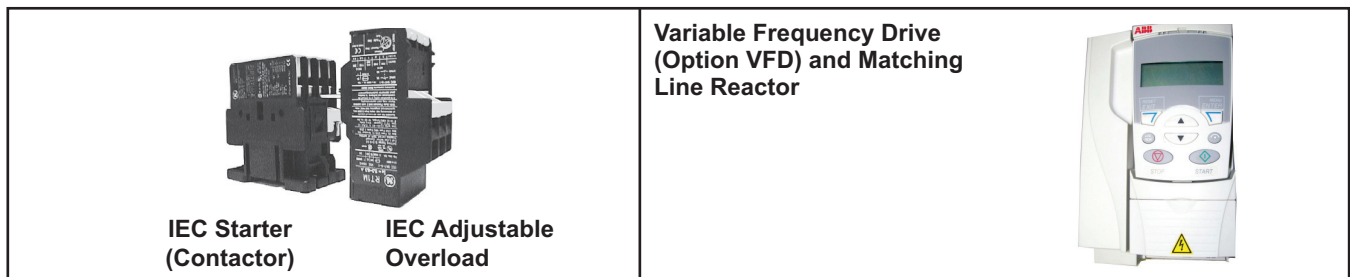

Figure 12. IEC Starter and Overload and Variable Frequency Drive
- Variable frequency drives (option VFD) and their corresponding line reactors are shown in Figure 12 and listed in Table 20.
- Units with two-speed motors manufactured *after* AUG 1991, are equipped with IEC two-speed starters (contactors). When ordering a replacement IEC starter (refer to Table 24) or overload, check the manufacturer's number on both parts. If the number is different than that listed in Table 21, Table 22, and Table 23, both components must be replaced. The IEC starter and overload (see Figure 12) are mounted on a rail (PN 111387).